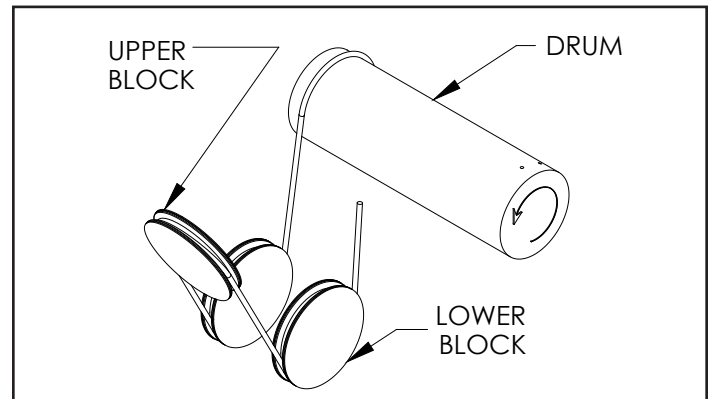

Figure 5-5 Reeving Diagram - 4 Part Single Reeved. (Note: Arrow on Drum Indicates Direction of Drum when Lowering.)
- b) Before removing the old rope, refer to reeving diagrams, Figures 5-5 & 5-5a. To assist with re-reeving your hoist, refer to the appropriate reeving diagram and corresponding paragraph that describes the reeving procedure.
- (5) With outer lower block covers removed, thread the wire rope through the sheaves of the upper and lower block as shown in Figure 5-5.
- (6) Attach swaged rope end to the dead end anchor pin and fasten with either the new cotter pin provided with the rope ("B" & "C" Frame) or the retaining rings provided with the hoist ("D" Frame).
- (7) Replace the lower block sheave covers.
- (8) Lubricate cable per Paragraph 4-3.